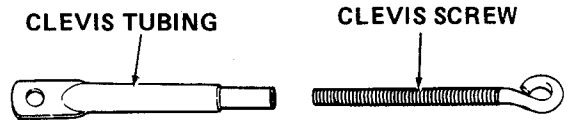

Figure B-22
11. Install clevis screw (8) and clevis tubing (9) as follows:
- a. Lightly oil threads on clevis screw and thread clevis screw into clevis tubing. Refer to Figure B-22.